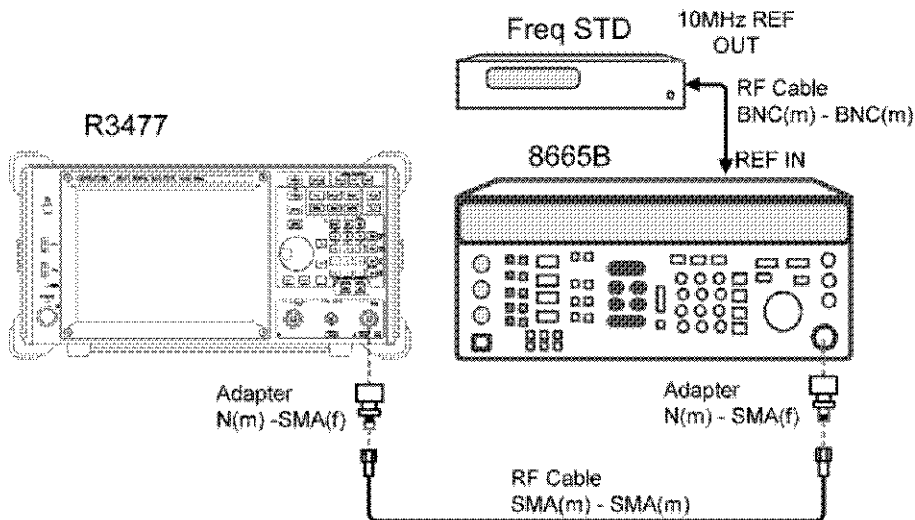

Figure 2-5 Residual FM Test
1. Connect the instruments as shown in Figure 2-5.